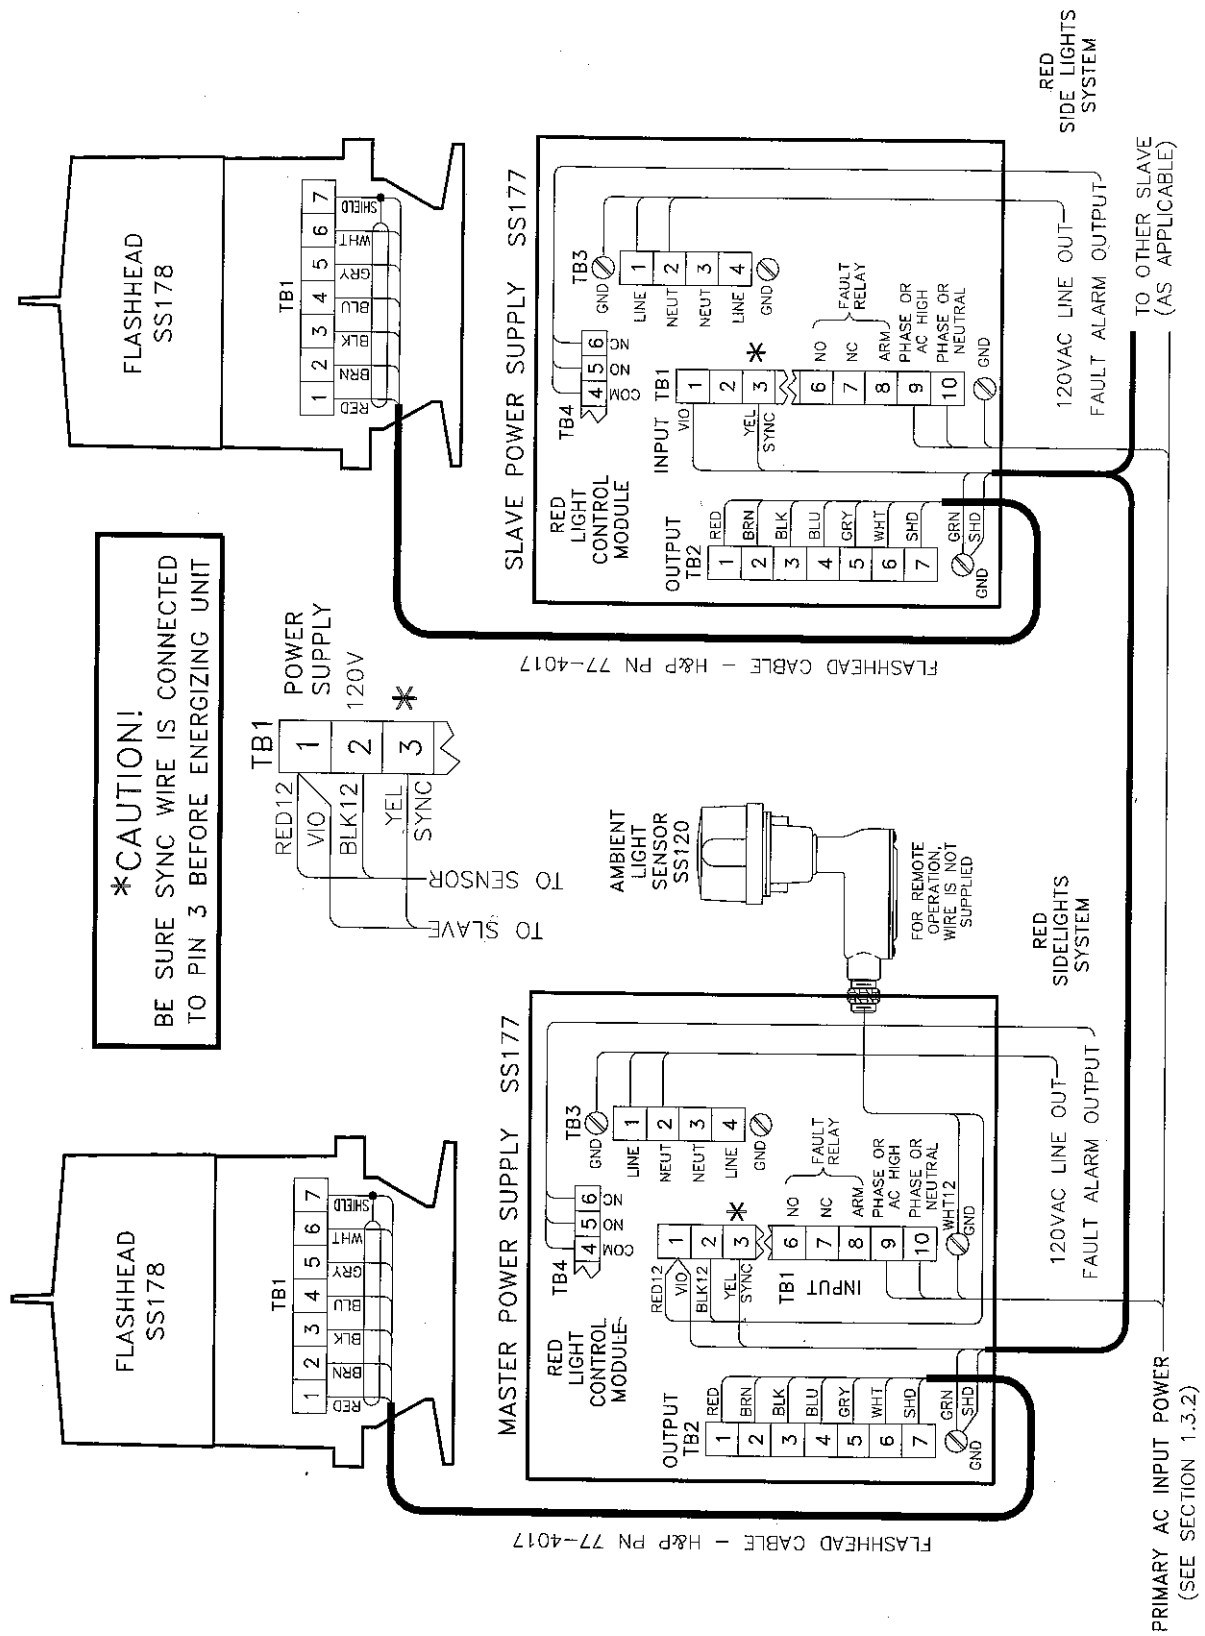

Figure 2-3. INSTALLATION WIRING FOR MASTER/SLAVE UNITS
STEP4 - For structures with two (2) or more systems make the interconnects between the Master power supply and Slave power supply (s) using the H&P supplied cable (77-4231). The wires in this cable are connected to) **TB1 in the Power Supply (s)** per *Figure 2-3*. This cable has a total of 10 conductors and can be used to distribute power and consolidate alarm functions to and from slave power supplies. For details *consult Factory*.